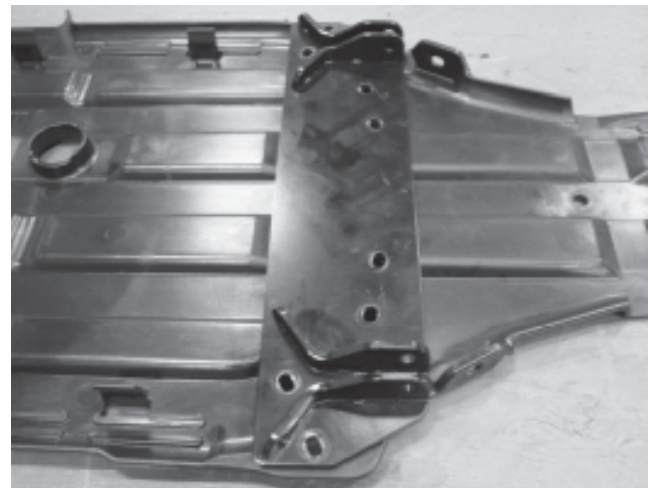

Figure 3
3. Once the skid plate is removed. Use the plow mount as a template for holes to be drilled, as shown in figure 3.